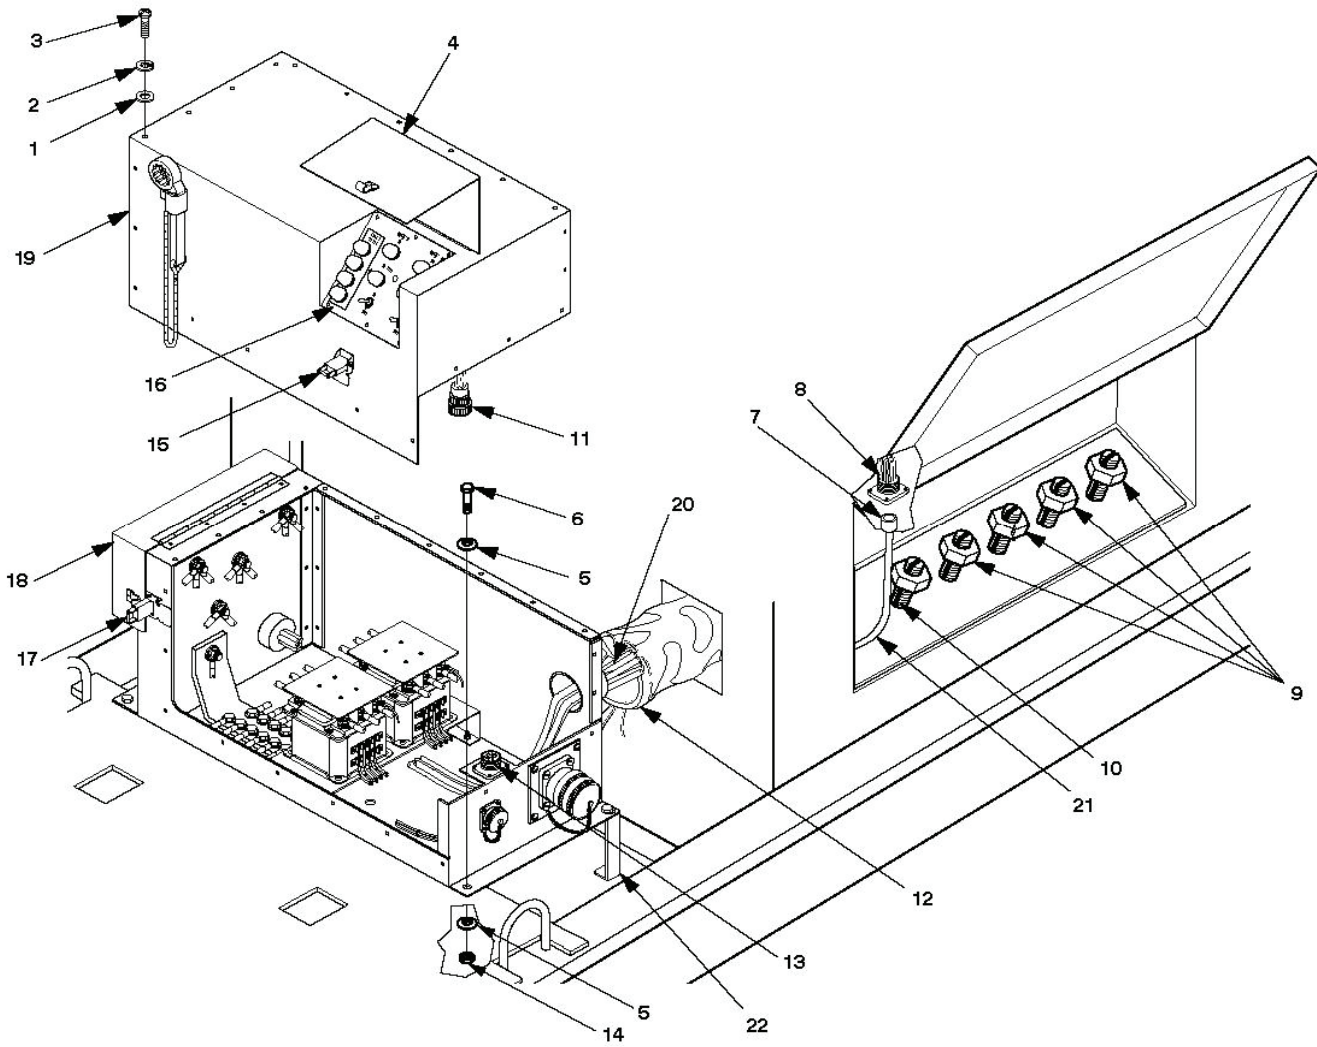

Figure 4-10.1. Switch Box Assembly Maintenance (Typical A Model)
1. Remove four lock-nuts (14, figure 4-10.1), eight flat washers (5), and four cap screws (6) that secure the switch box assembly. Discard lock-nuts (14).
1. Place loop clamp (6) so mounting holes are aligned with switch box cover (19, figure 4-10.1) holes.
3. Install cap screw (8), two flat washers (3), terminal lug (7), new lock washer (2), and nut (1) which secure loop clamp (6) to switch box cover (19, figure 4-10.1).